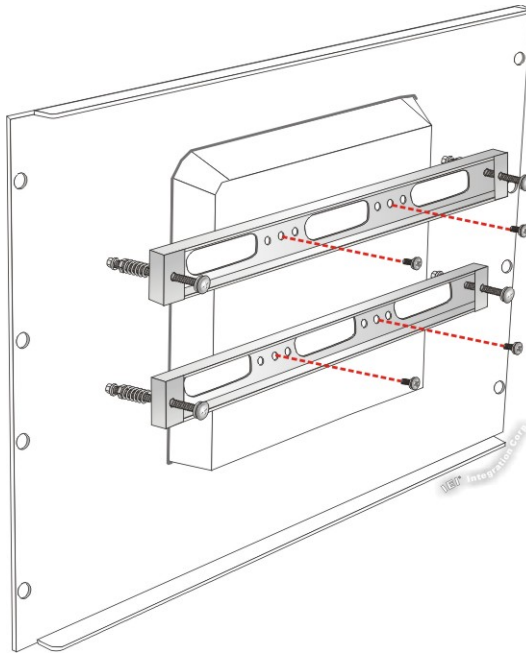

Figure 3-17: Securing Rack Mounting Brackets
- Step 5:** Secure the two rack mounting brackets to the rear of the panel PC by inserting the four retention screws into the VESA mounting holes and tightening them (Figure 3-17).